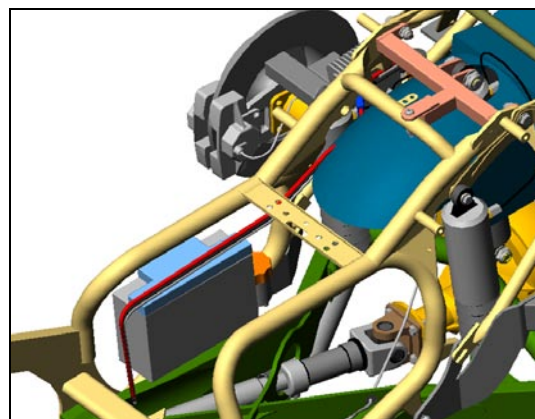

Figure 40
- d. Route extended wiring behind reverse resistor assembly and over battery. Figure 40